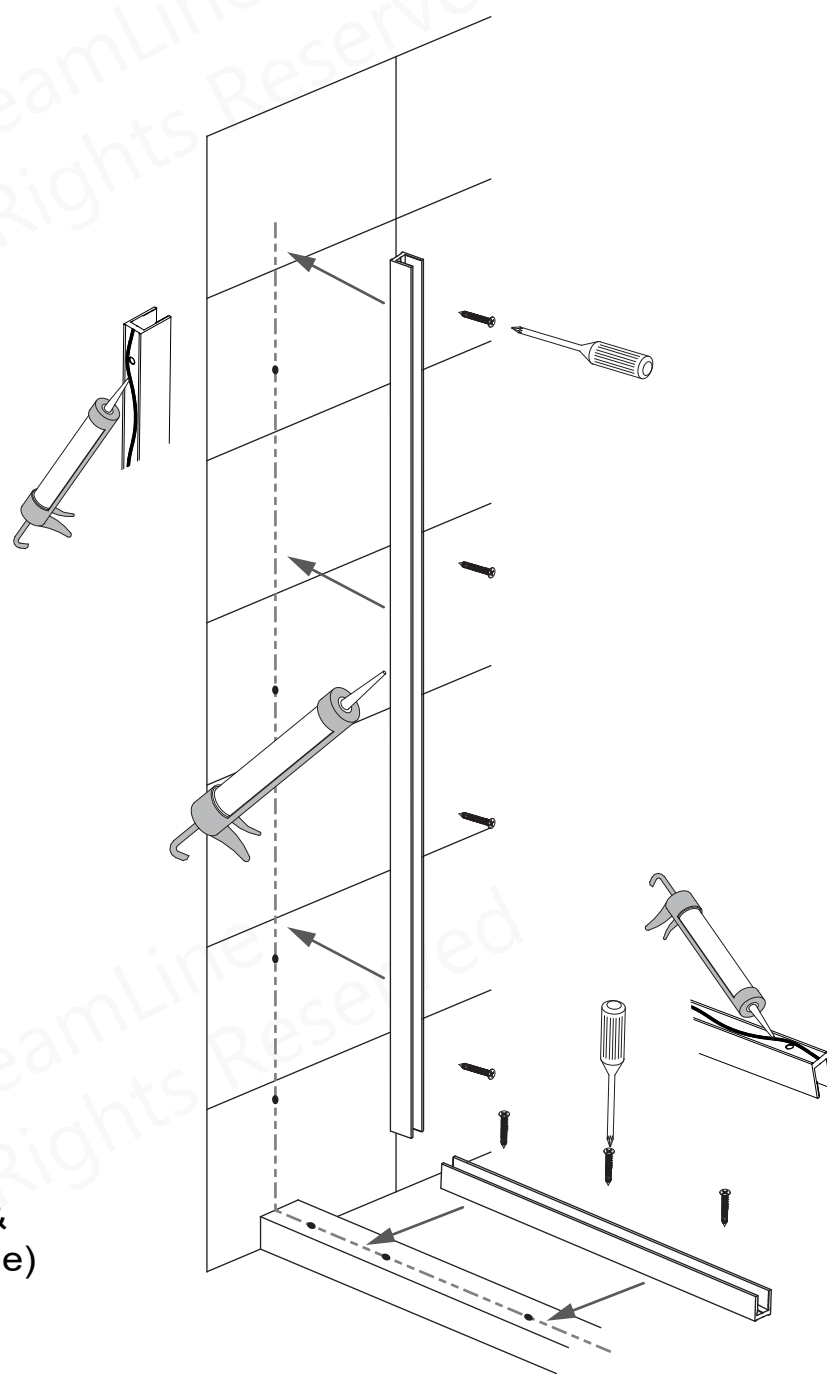

Fig 6
6. Apply silicone to the back of the U-Channels and the screw holes, then install the U-Channels using the **ST4.2 x 40mm Screws (#23)**. (Fig 6)